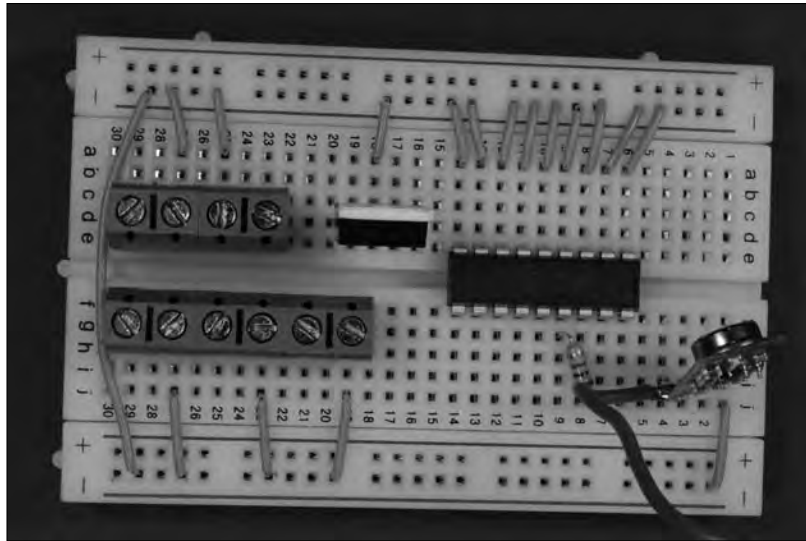

Figure 13-10:
4. Insert wires to connect the IC, voltage regulator, transmitter, and the terminal blocks to the ground bus. Then insert a wire between the two ground buses to connect them, as shown in Figure 13-10.